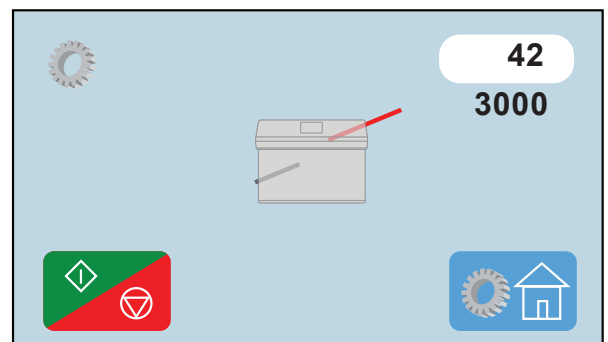

Fig. 39
- Press the Start/Stop icon . The fold stop will move to the highest position and a number will appear in the white box (Fig. 39). Press the Start/Stop icon again to move the fold stop to the lowest position. A new number will appear in the white box for the lower position. Run the test a couple more times. If the numbers remain within 1 to 2 of the original numbers the fold table is working properly.